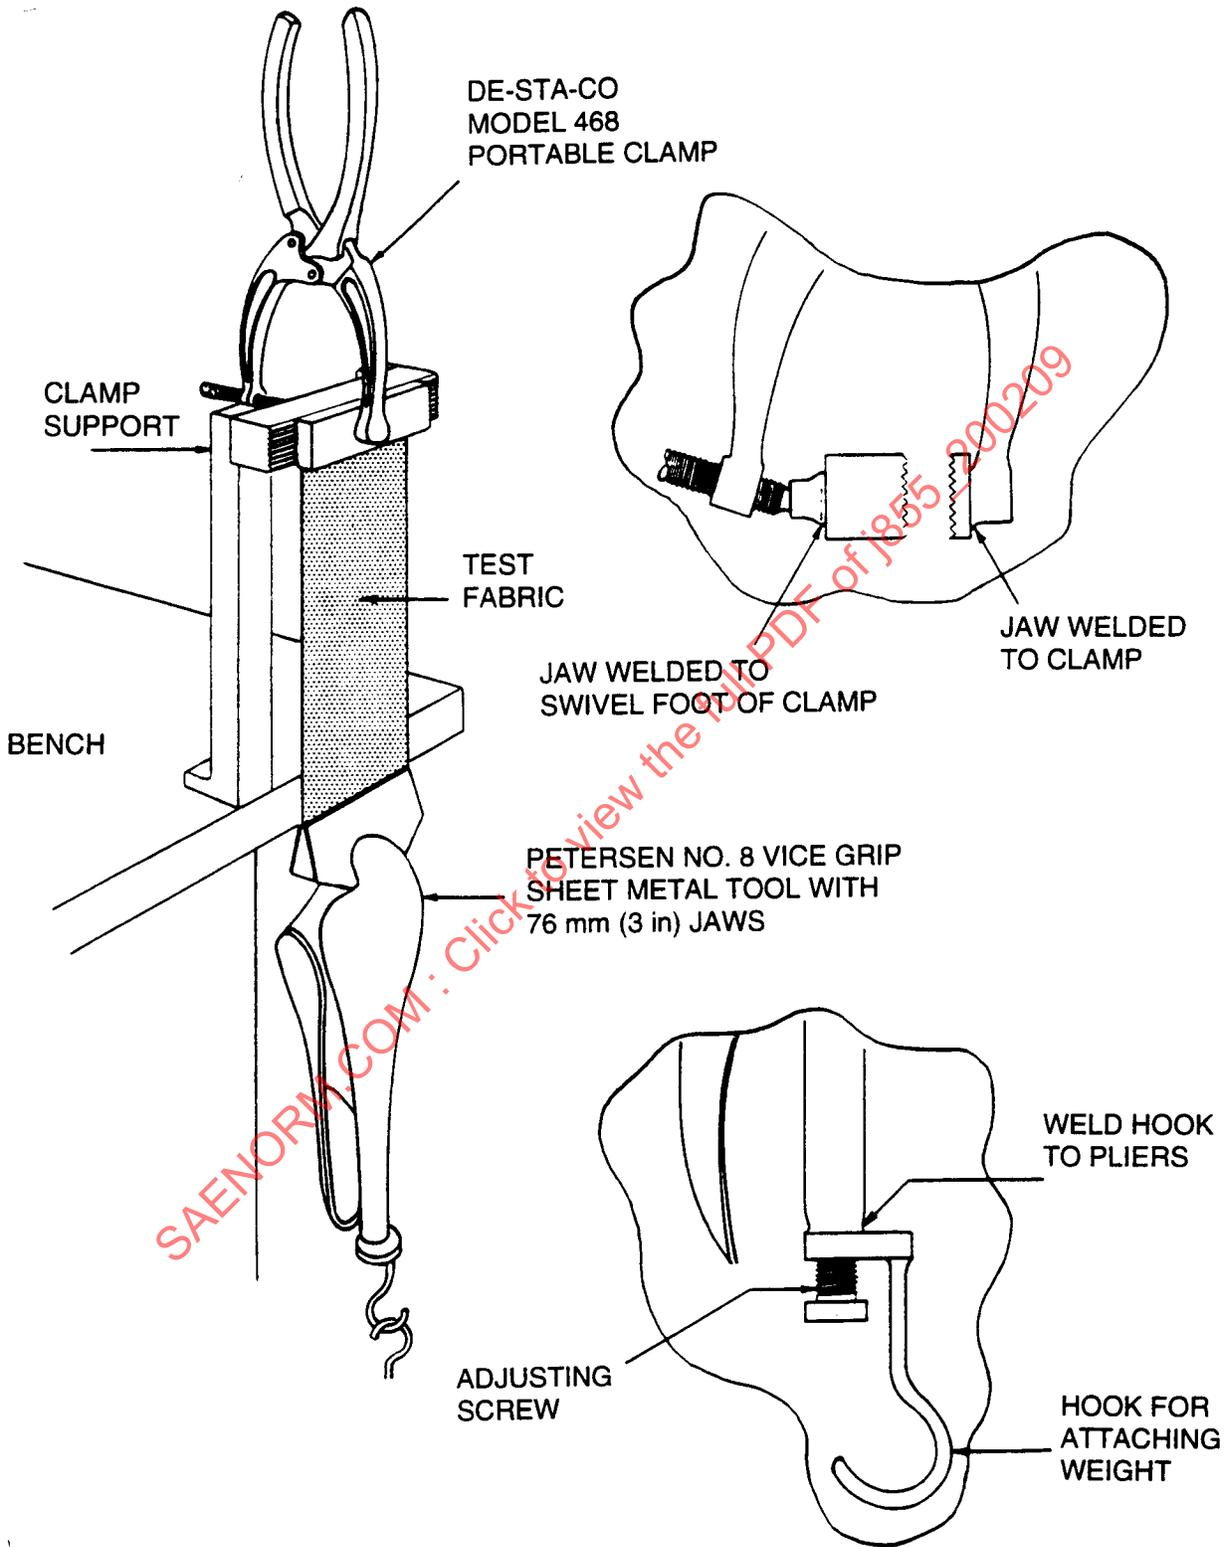

FIGURE 1—CLAMP AND FIXTURE ASSEMBLY FOR STRETCH AND SET OF TEXTILES
- 3.1 **Fixtures**—The vice grip clamps are preferred because of the speed and ease of operation. Refer to Figure 1.